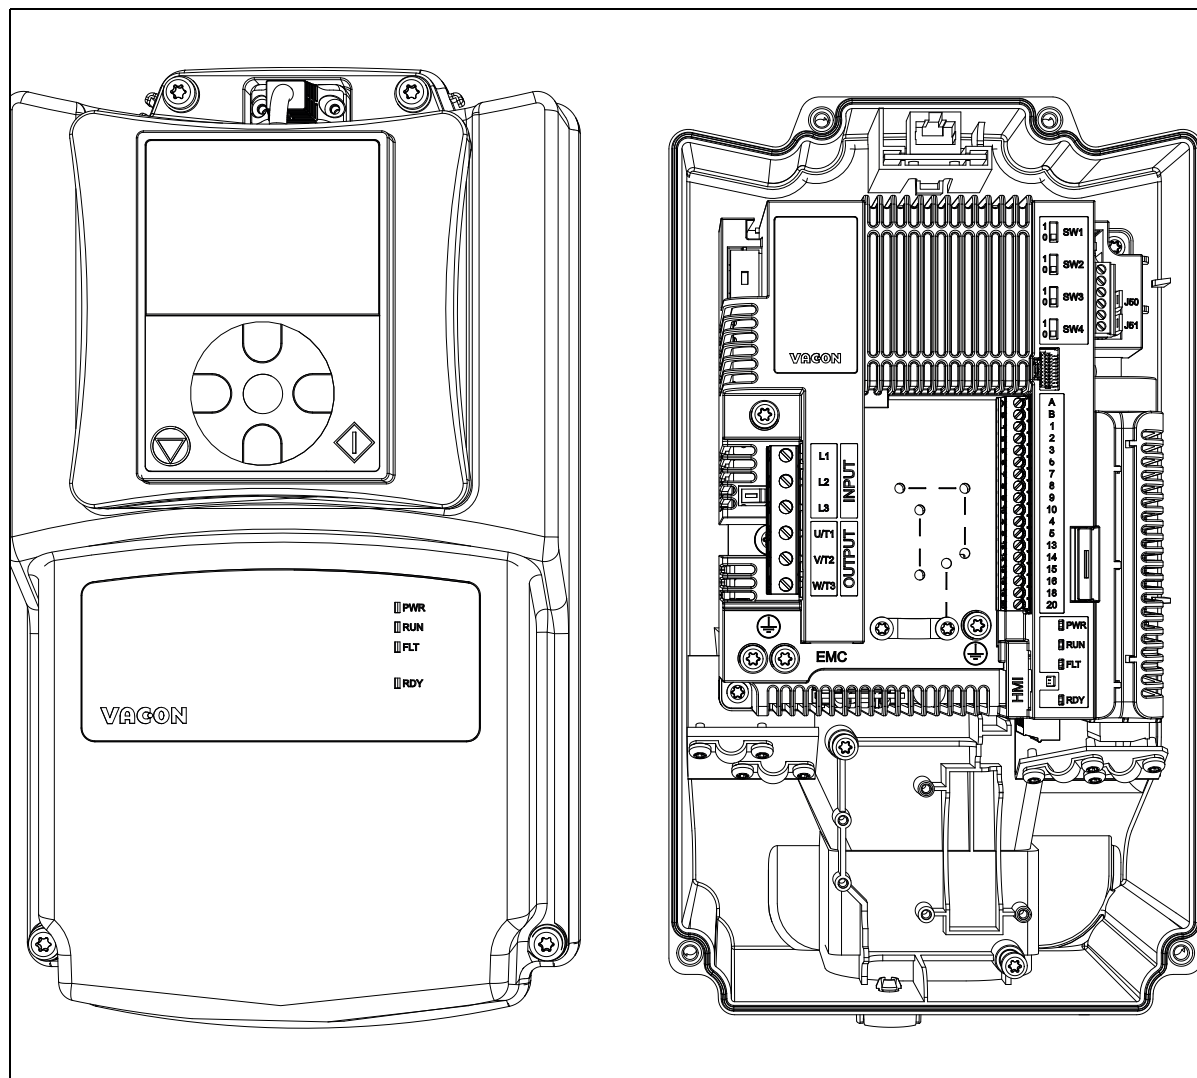

Figure 20. MU2 example: open cover.
- Remove the plastic cover of the drive as shown in Figure 20.